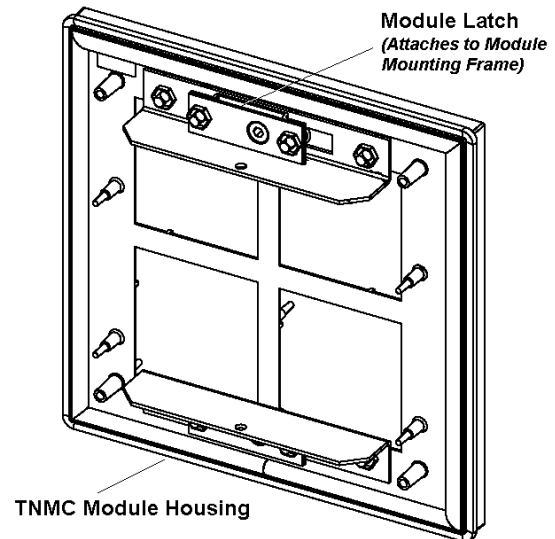

Figure 19: TNMC Module (Rear View)
2. Unlatch the latch fasteners, illustrated in **Figure 19**, by turning them a quarter-turn using a $\frac{7}{32}$ " nut driver. Turn the top latch clockwise and the bottom latch counterclockwise. Carefully remove the module and detach the ribbon cables. Label the cables, indicating which cable was removed from which connector; the labeling will be helpful when you replace the board.